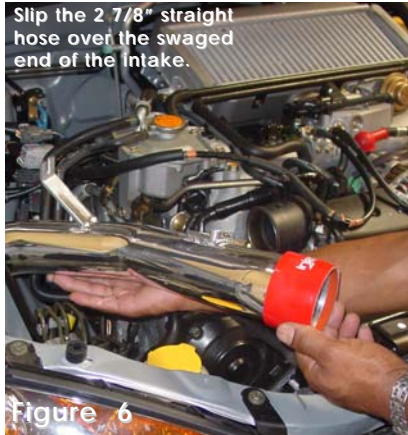

Figure 6
- 6- Slip the 2 7/8" straight hose over the throttle body end of the intake. Take the two medium clamps and place them over the 2 7/8" straight hose but do not tighten any of the clamps yet. (See fig. 6)